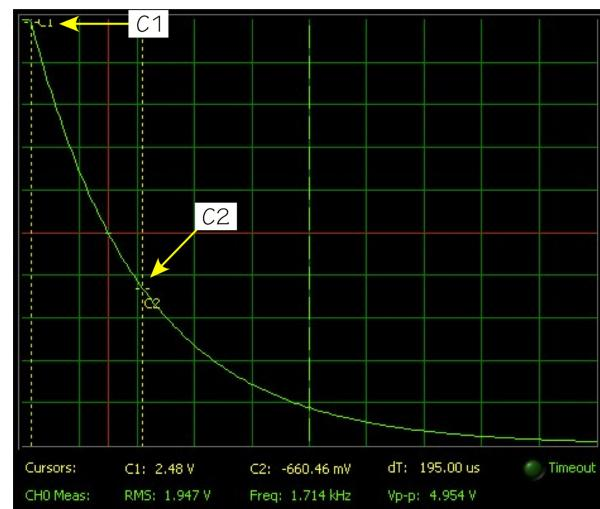

Figure 8: Measuring τ
13. Move cursor C2 so the voltage shown for it is as close to V_{tc} as you can get, as shown in Figure 8.